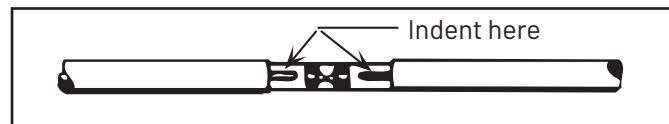

Figure 4-3: Indent Connectors
- E. Using crimping pliers, indent butt connector lugs to attach wires (Figure 4-3).